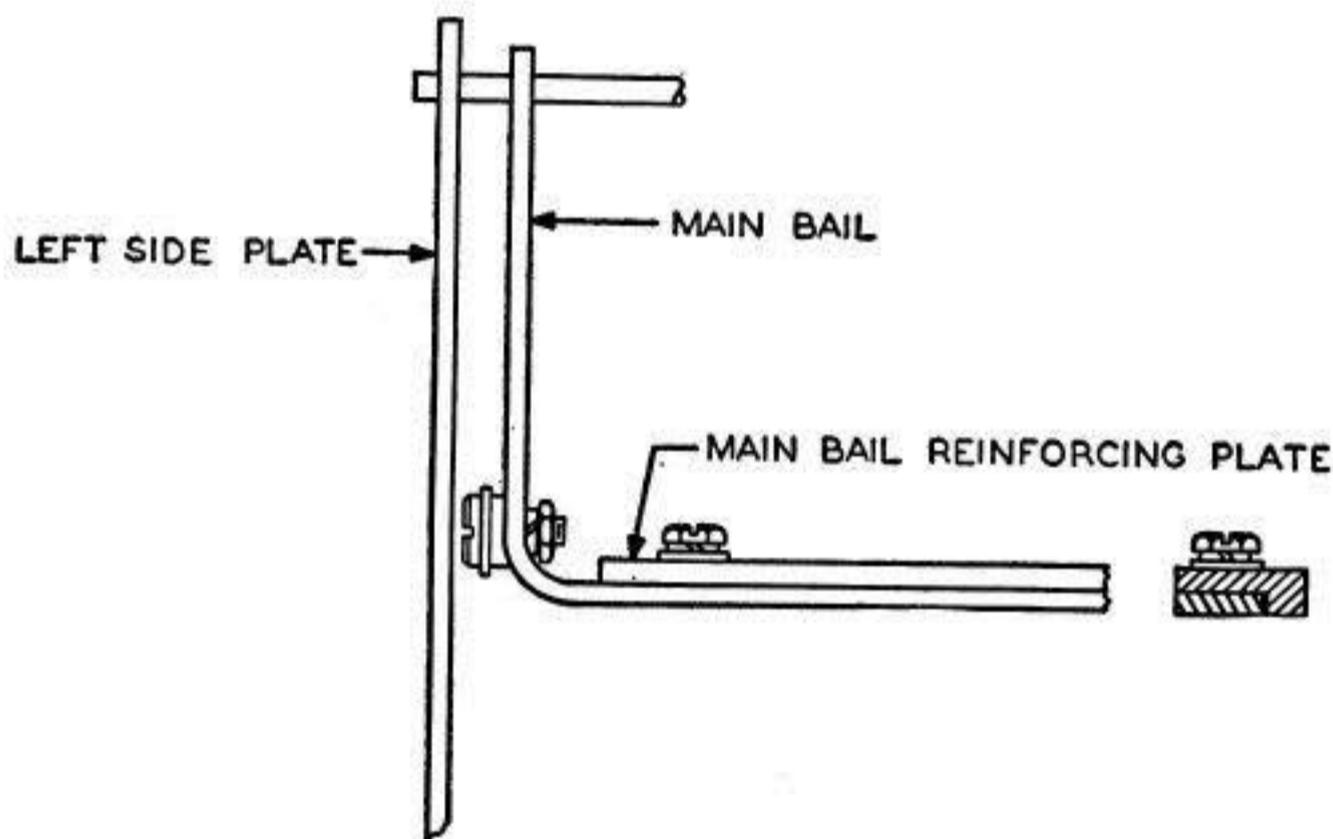

Fig 6
3.11 Mainbail-Reinforcing Plate: The horizontal leg of the mainbail-reinforcing plate should contact the lower edge of the mainbail across its entire length. **Fig 6**